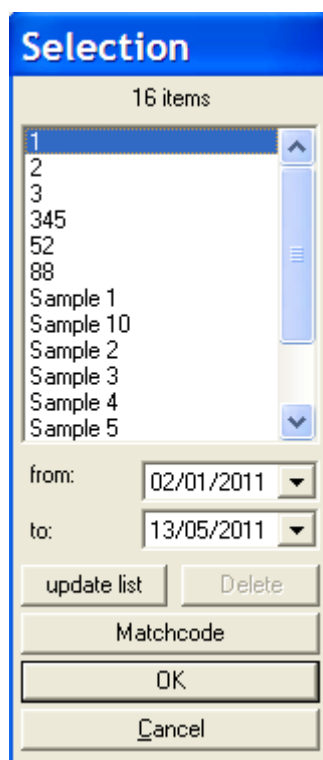

Figure 10-7: Selection – sample IDs
1. Choose **List Sample-ID**. Selection appears (Figure 10-7).